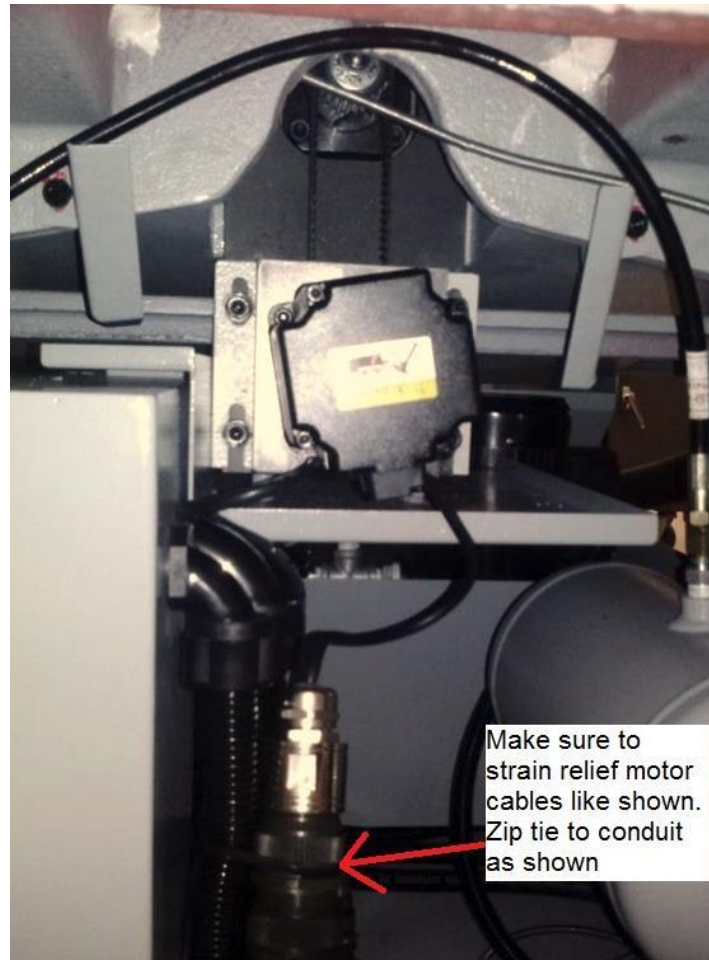

Figure 6.1.2
- Locate the Y-axis servo motor at the lower rear section of the 2 Op Mill. Disconnect the encoder and power cables from the machine. See figure 6.1.2.